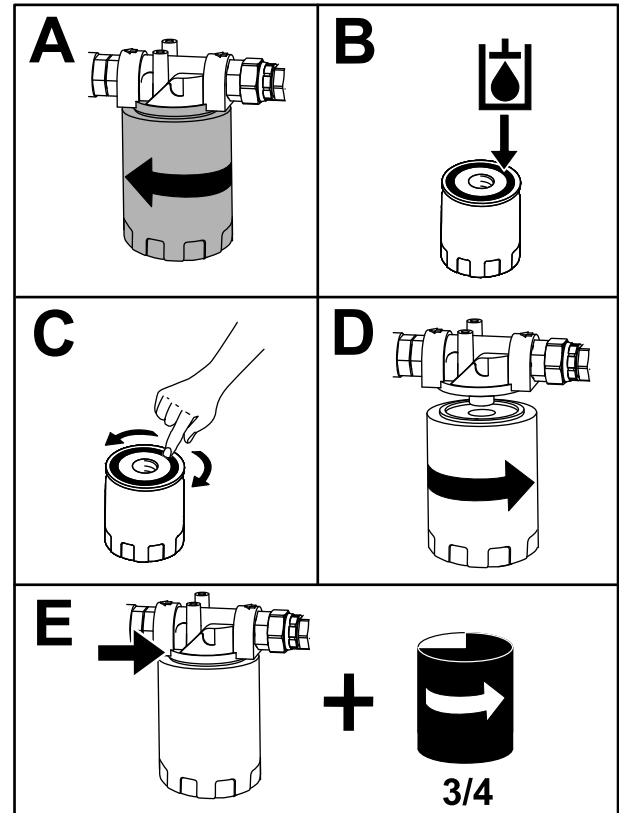

Figure 35
2. Place a drain pan under the filter and replace the filter (Figure 35).